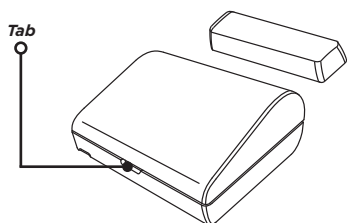

Figure 1: 1106 Housing
1. Open the 1106 by inserting a 1/4" flat head screwdriver in the tab. See Figure 1.
1. Open the transmitter housing to expose the inside of the 1106. See Figure 1.